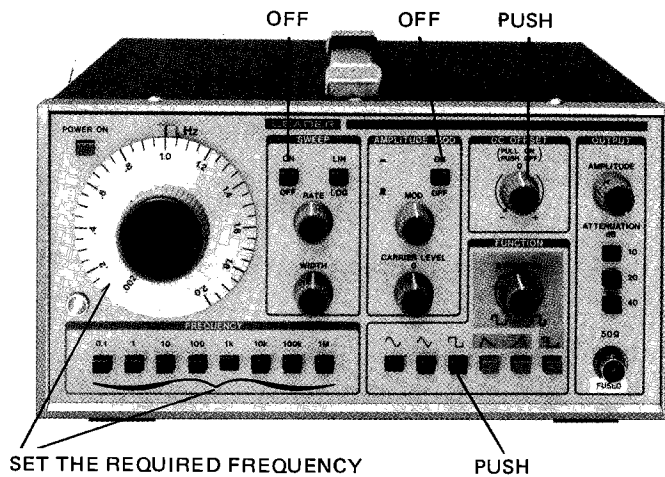

Figure 5-4. Square Wave Operation
1. Follow paragraph 5-2-1, but depress the square wave push-button. Refer to Fig. 5-4.